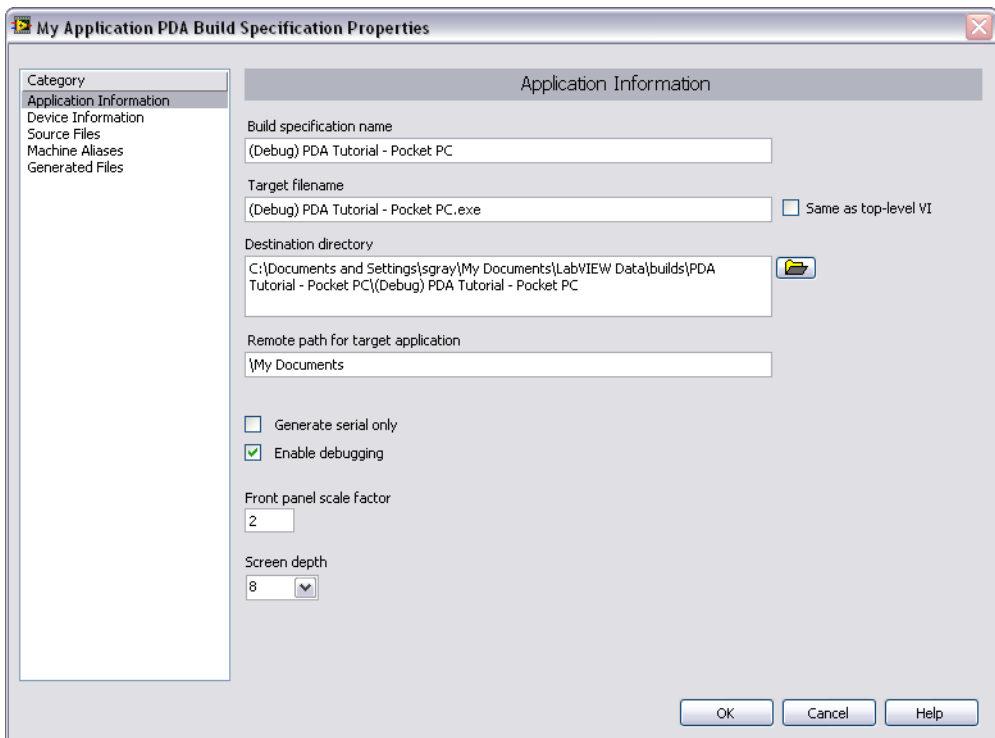

Figure 10. Creating the Debugging Build Specification
5. Place a checkmark in the **Enable debugging** checkbox to generate debugging information when you build the PDA VI into a PDA application as shown in Figure 10.